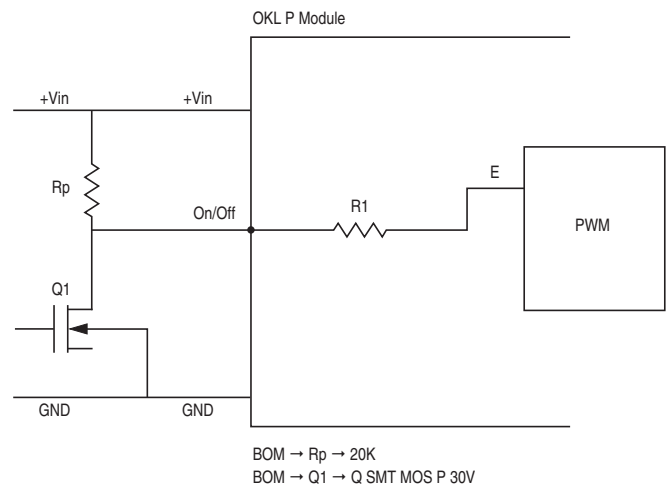

Figure 7. On/Off Circuit Control for Using Positive On/Off Logic
The OKL Series power modules can be specified with either a positive or negative logic polarity. See Figures 7 and 8 for On/Off circuit control. In the positive logic on/off option the unit turns on during a logic high on the On/Off pin and turns off during a logic low. In a negative logic on/off option, the unit turns off during logic high and on during logic low. The On/Off signal should always be reference to ground. For positive or negative option, leaving then On/Off pin disconnected will turn the unit on when input voltage is present.
**Positive**—Units are enabled when the on/off pin is left open or is pulled high to +Vin. The On/Off circuit control is shown in figure 7. When the external transistor Q1 is in the off state, the internal PWM enable pin is pull high causing the unit to turn on. When Q1 is turn on, the On/Off pin is pulled low and the units is off. Rp should be around 20K ohms.